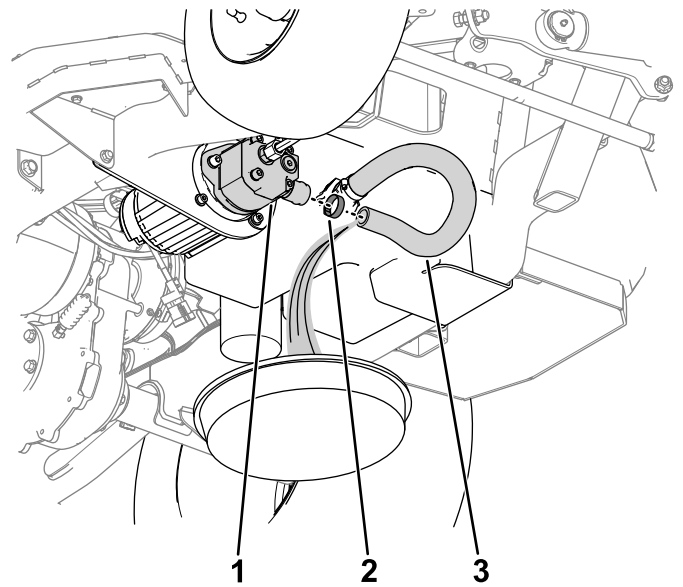

Figure 61
- A. Remove the hose and hose clamp from the pump (Figure 61).
- B. Allow the hydraulic fluid to drain from the hose into the drain pan (Figure 61).